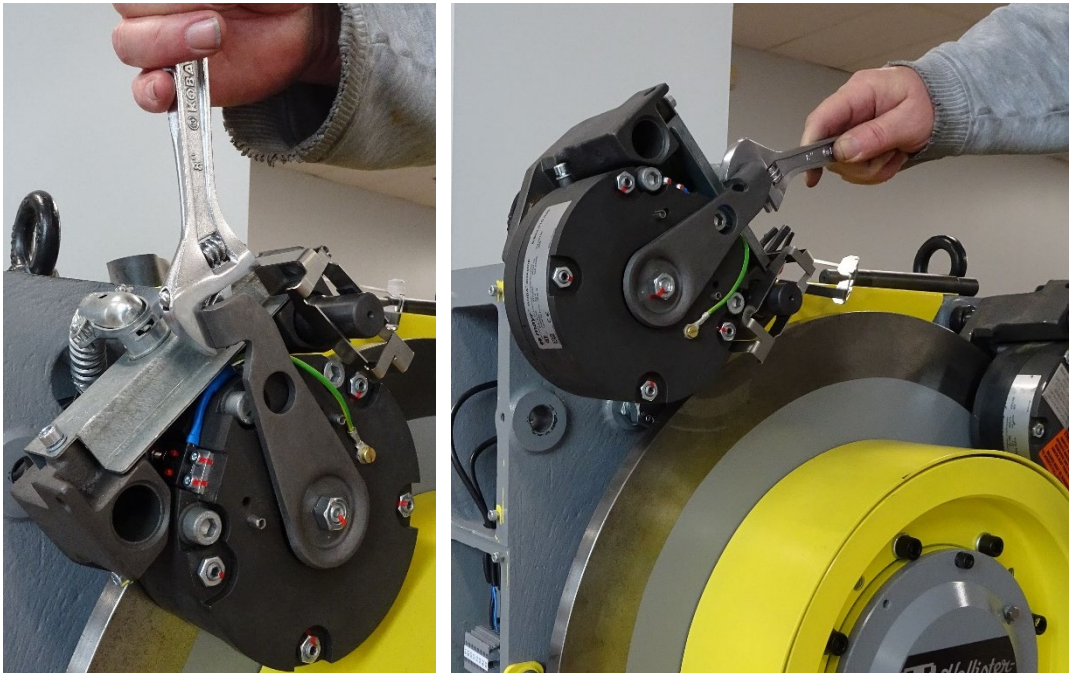

Figure 39
7. Using an adjustable wrench on the brake release lever tip the brake up out of position until the brake clears the rotor. Pressure on the brake release lever opens the brake to allow this to happen (Figure 39).